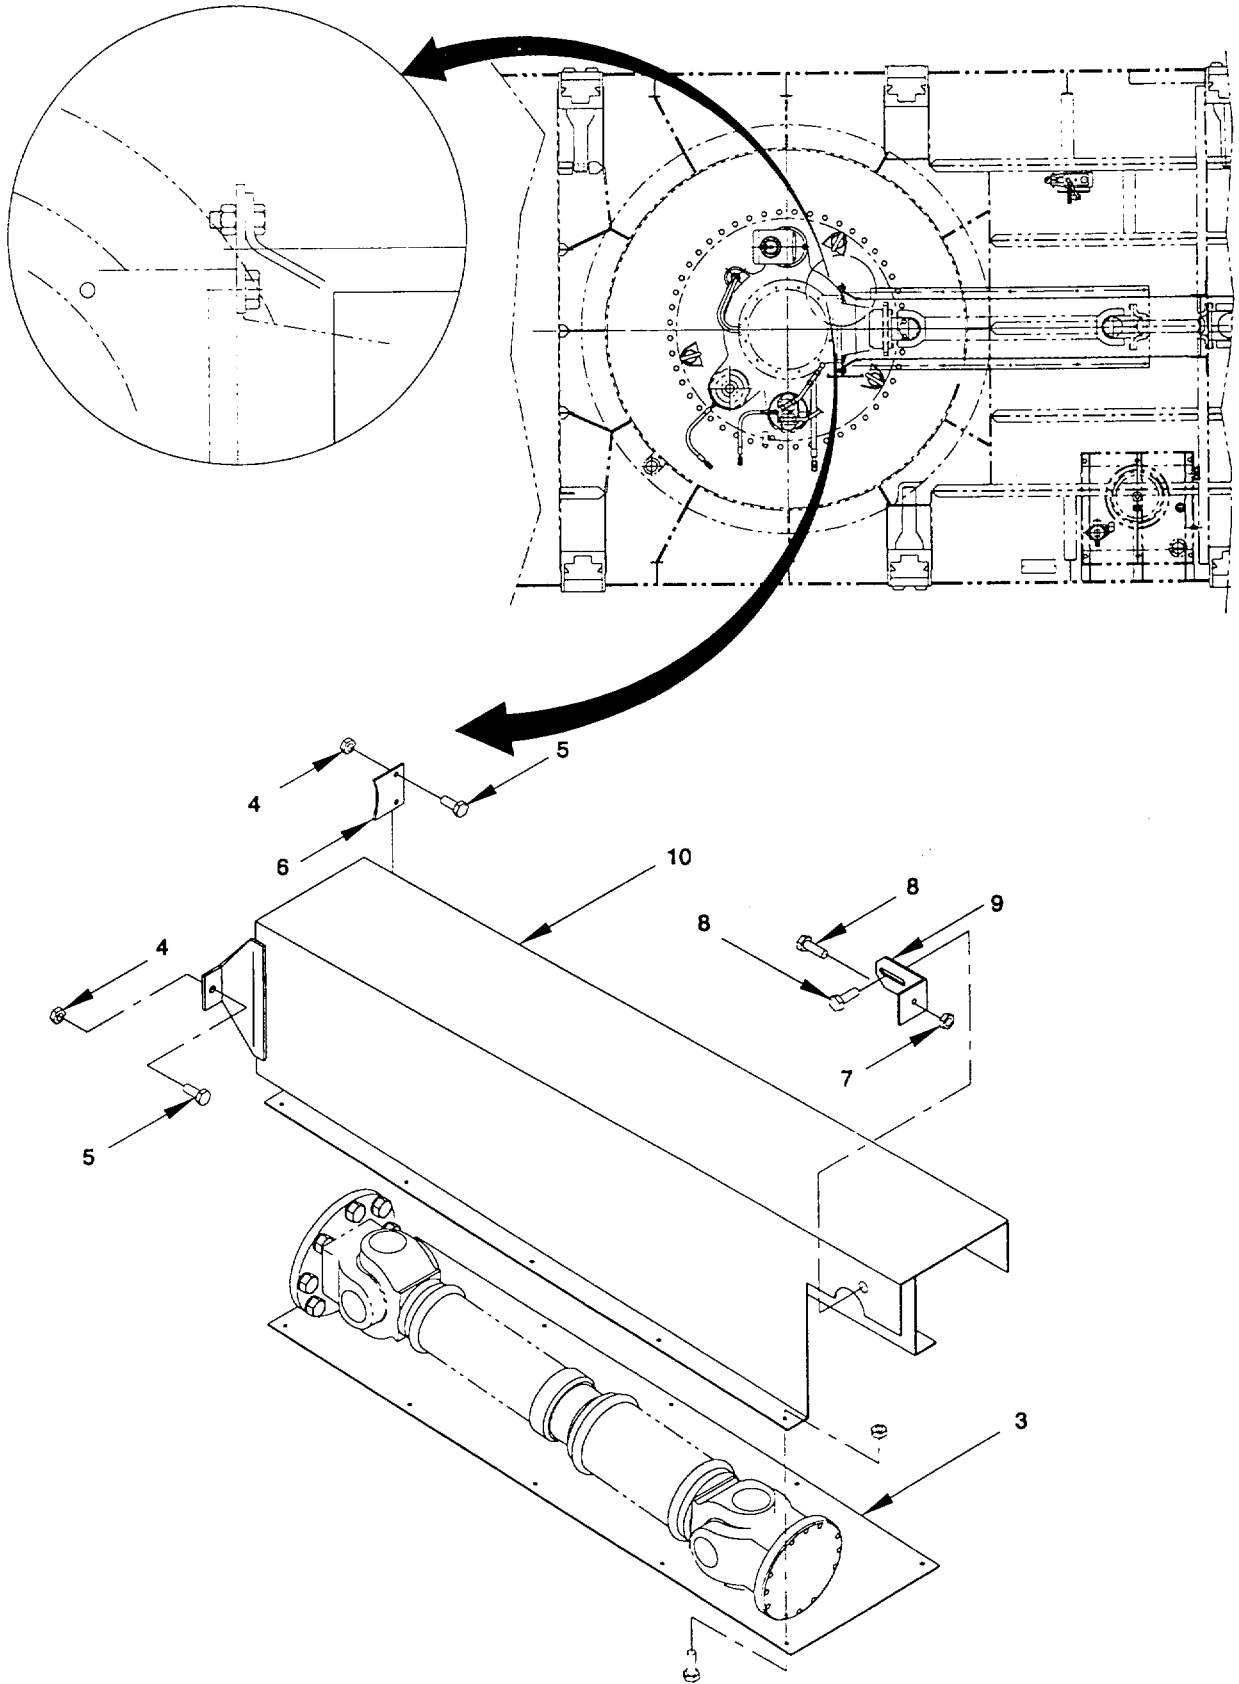

Figure 2-17. Machinery Guard, Transfer Case to Pump-Jet, Remove/Install.
a. *Remove.* (figure 2-17)
- (1) Remove ten hex nuts (1) and ten hex head capscrews (2) to free cover guard (3) from machinery guard (10).
- (2) Remove two self-locking hex nuts (4), two hex head capscrews (5) from mount plate (6).
- (3) With appropriate lifting equipment supporting machinery guard (10), remove four self-locking hex nuts (7) and four hex head capscrews (8) from machine guard bracket (9). Lift off machinery guard (10).
b. *Install.* (figure 2-17)**WARNING****Machinery Guard weighs 95 lbs. Use appropriate lifting equipment when handling. Failure to comply may result in serious injury to personnel.**
- (1) Using appropriate lifting equipment, position machinery guard (10) over drive shaft, between pump-jet and transfer case. Secure to machine guard bracket (9) using four self-locking hex nuts (7) and four hex head capscrews (8).
- (2) Secure machinery guard (10) to mount plate (6) using two self-locking hex nuts (4) and two hex head capscrews (5).
- (3) Position cover guard (3) and secure to machinery guard (10) using ten hex nuts (1) and ten hex head capscrews (2).